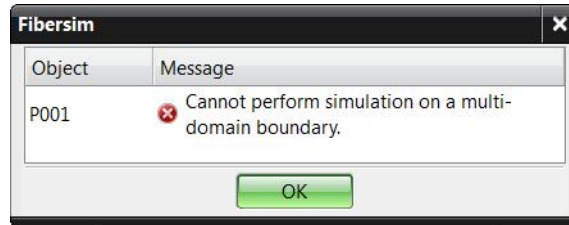

Figure 5–31
5. Click  (Link Geometry) next to the *Boundary* field and select the curves **Radial 1** and **Radial 2**, as shown in Figure 5–32, to re-limit the ply to the first quadrant of the surface.